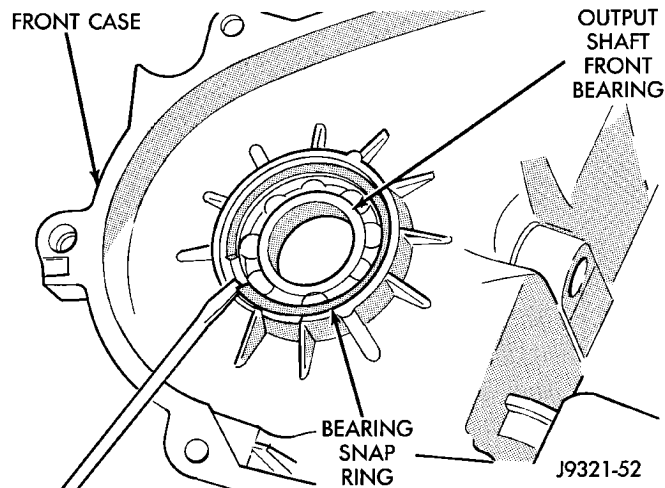

Fig. 44 Output Shaft Front Bearing Snap-Ring Removal
(2) Remove snap-ring that retains front output shaft bearing in front case (Fig. 44).